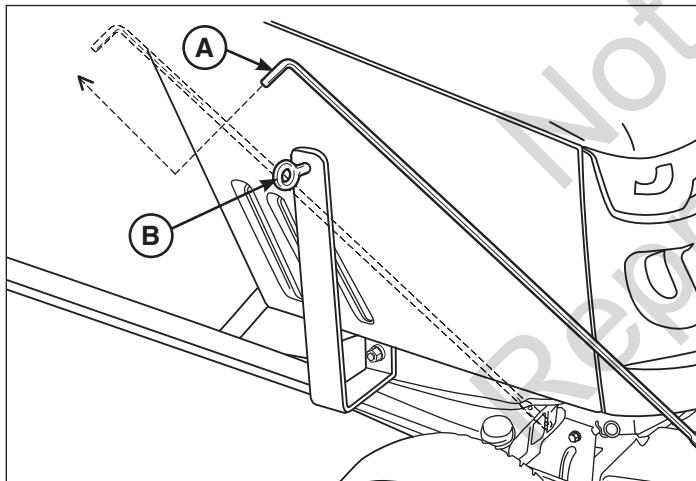

Figure 16
3. Insert the top blade rod (**A**, Figure 16) through the eye bolt hole (**B**).